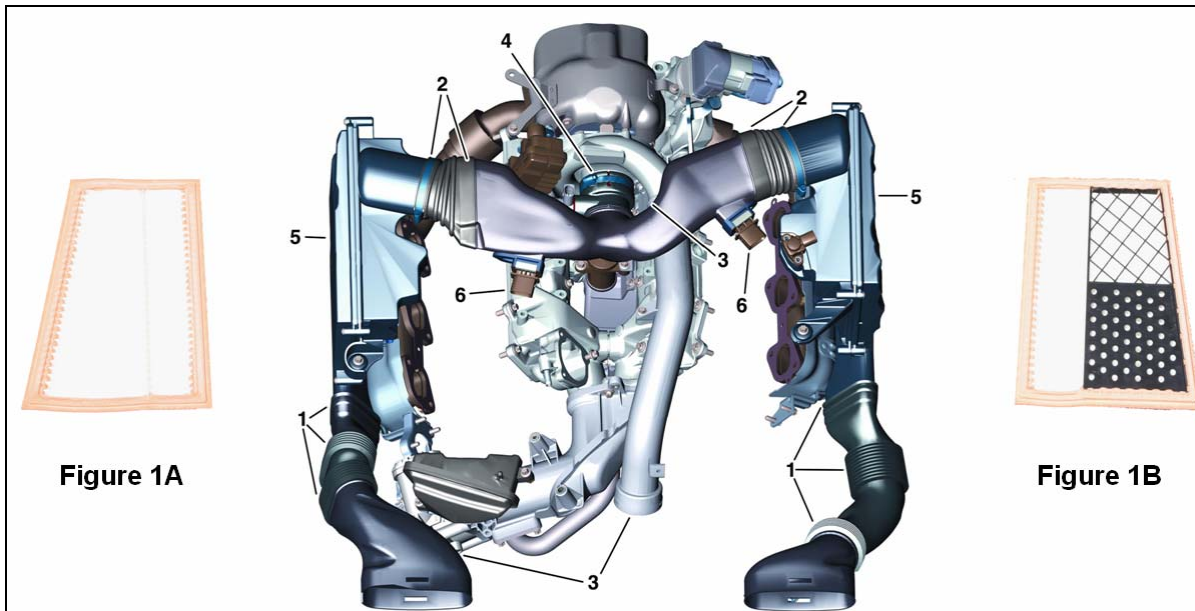

Figure 1
1. The intake air line upstream of the air filter (Figure 1, 1) and the clean air line between the air filter and the turbocharger (Figure 1, 2). Check the intake air lines for leaks. Visually inspect all connections for leaks, cracks, incorrect assembly and correct as needed.
2. The charge air system (green seal ring between turbocharger and charge air line to noise damper, seal rings at the connections between the charge air hoses and the Henn couplings) (Figure 1, 3). Check charge air system for leaks. Visually inspect all of the connections for oil leakage, cracks, incorrect assembly, and pinched or damaged o-rings on the charge air hoses.
**Note:** Oil coating present in the clean air duct (Y-pipe, Figure 1, 2) with integrated hot film mass air flow sensors does **NOT** cause signal drift and therefore does **NOT** generate fault entries.
If vehicle mileage exceeds 18,500 miles, a prematurely clogged air filter can result in fault entries in vehicles operated in dirty/dusty conditions. In cases of vehicles operated in dirty/dusty conditions with heavily contaminated air filters, replace the air filter elements. After replacing the air filters (Figure 1, 5), reset the learned values for the air filter contamination (SDS menu: CDI4/5 control unit → Control unit adaptation → Reset air filter learned values).
**i** **Note:** Ensure that the air filters are installed in the correct side and that the covers are completely seated (Figure1, 1A and 1B).